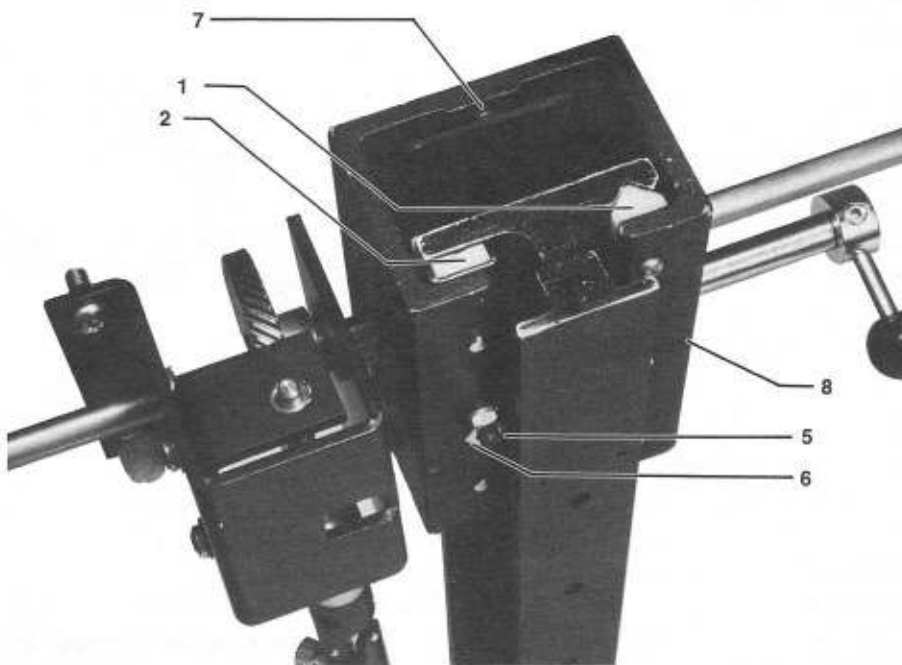

Figure 3
To laterally adjust the lens stage so that the optical center is centered with negative carrier; loosen the jam nut (fig. 3, items 5 and 6) that secures the bearing adjusting set screw with the thin 3/8" wrench. With the 3/32" hex wrench supplied, adjust the set screw until proper lateral alignment is made. This is achieved when the center of a lens is in line with the center of the negative stage. Tighten the jam nut.
The focus action is activated by a hardened friction driving wheel moving on a hardened friction bar. The pressure on these two members is adjusted by means of set screw which activates a pressure spring (fig. 3, item 7).